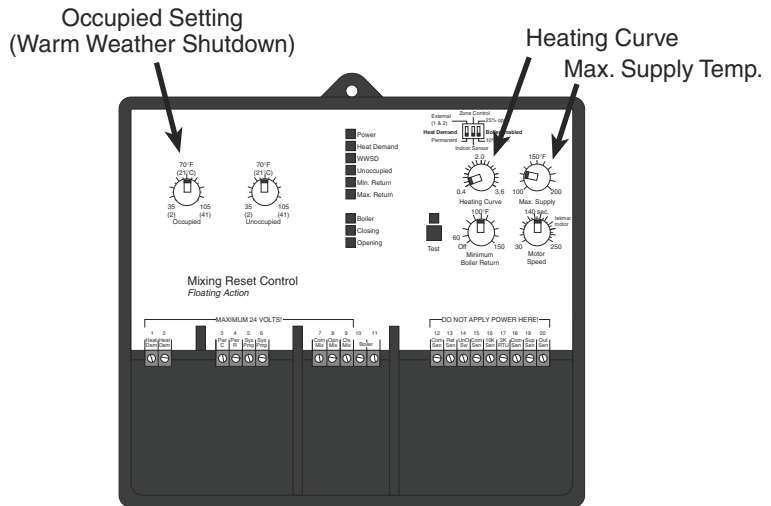

Figure 1. 30354 Controller
1. The Supply Water Temperature at Outdoor Design Temperature. (The maximum temperature allowed through floor – normally 130°F/54°C). This can be found from the Heat Curve (normally 0.6) for the 30354 Indoor/Outdoor controller as per Figure 1, or use the value entered for 31320 Indoor Controller, see next page for an example.
3. The Warm Weather Shut Off. This can be found on settings for 30354 controller (Occupied Setting as per Figure 1) or the value entered on the 31320 controller – normally 70°F (21°C).
From Figure 1, Heat Curve = 0.6